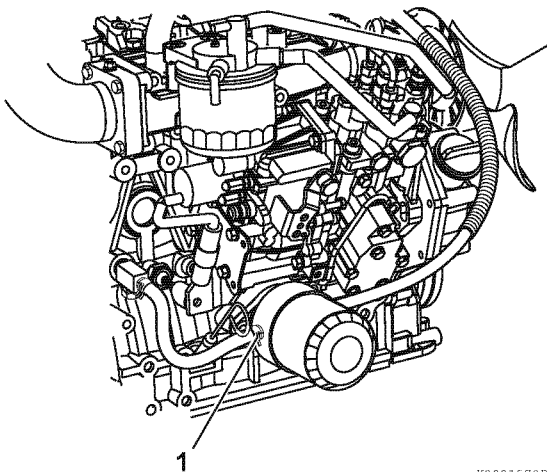

Figure 5-20
- On models equipped with an oil cooler, remove the coolant hose (Figure 5-20, (1)) at the oil cooler.